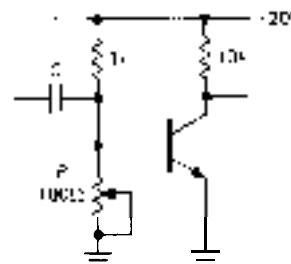

Figure 2.82
(7) Disregarding the lessons of this chapter, a disgruntled student builds the amplifier shown in Figure 2.82. He adjusts  $R$  until the quiescent point is  $0.5V_{CC}$ . (a) What is  $Z_{in}$  (at high frequencies where  $Z_C \approx 0$ )? (b) What is the small-signal voltage gain? (c) What rise in ambient temperature (roughly) will cause the transistor to saturate?